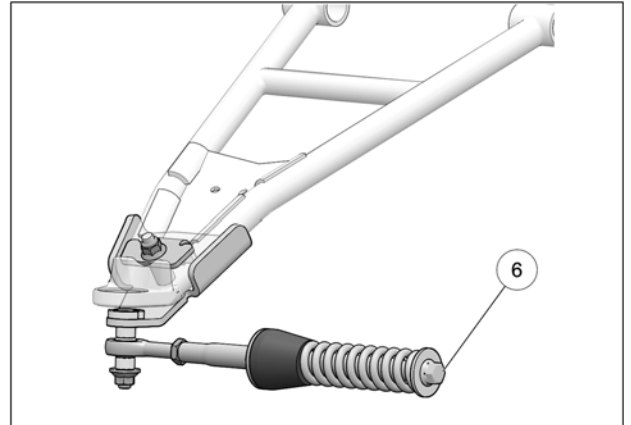

Fig. 23
10. Verify that spring assembly bolt (6) is tightened to the recommended torque specification: $75\text{ N}\cdot\text{m}$ [$55\text{ lb}\cdot\text{ft}$]. Refer to Fig. 23